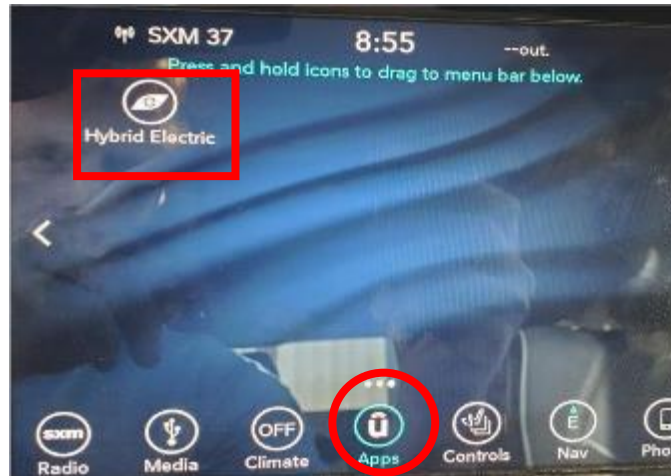

Figure 1 – Apps Display Screen
- 22. Select “Apps” then “Hybrid Electric” on the display (Figure 1).